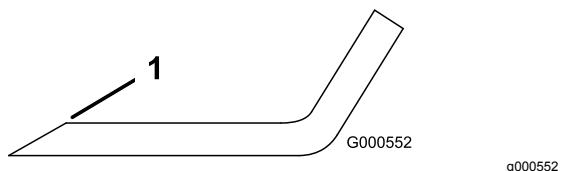

Figure 103
1. Use a file to sharpen the cutting edge at both ends of the blade (Figure 103).
Note: If the blade is not balanced, file some metal off the end of the sail area only (Figure 103).